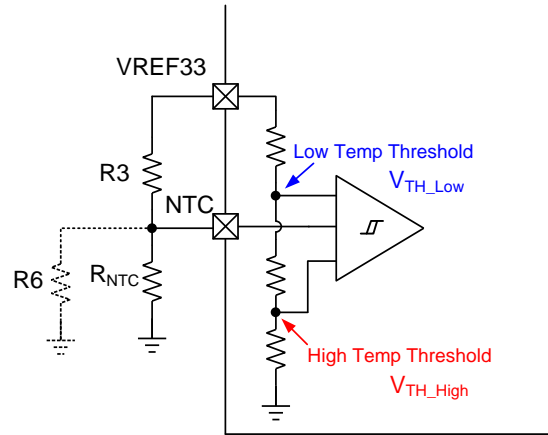

Figure 5: NTC Function Block
The low temperature threshold and high-temperature threshold are preset internally to  $V_{TL} \cdot VREF33$  and  $V_{TH} \cdot VREF33$  using a resistor divider (see Figure 5). For a given NTC thermistor, select an appropriate R3 and R6 value to set the NTC window with Equation (6) and Equation (7):